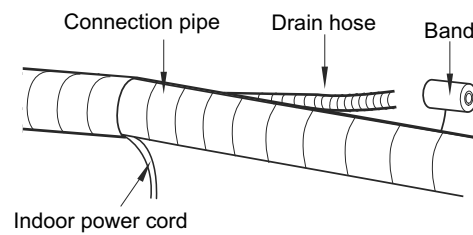

Fig. 15
- (2) Reserve a certain length of drain hose and power cord for installation when binding them. When binding to a certain degree, separate the indoor power and then separate the drain hose. (As shown in Fig. 15)